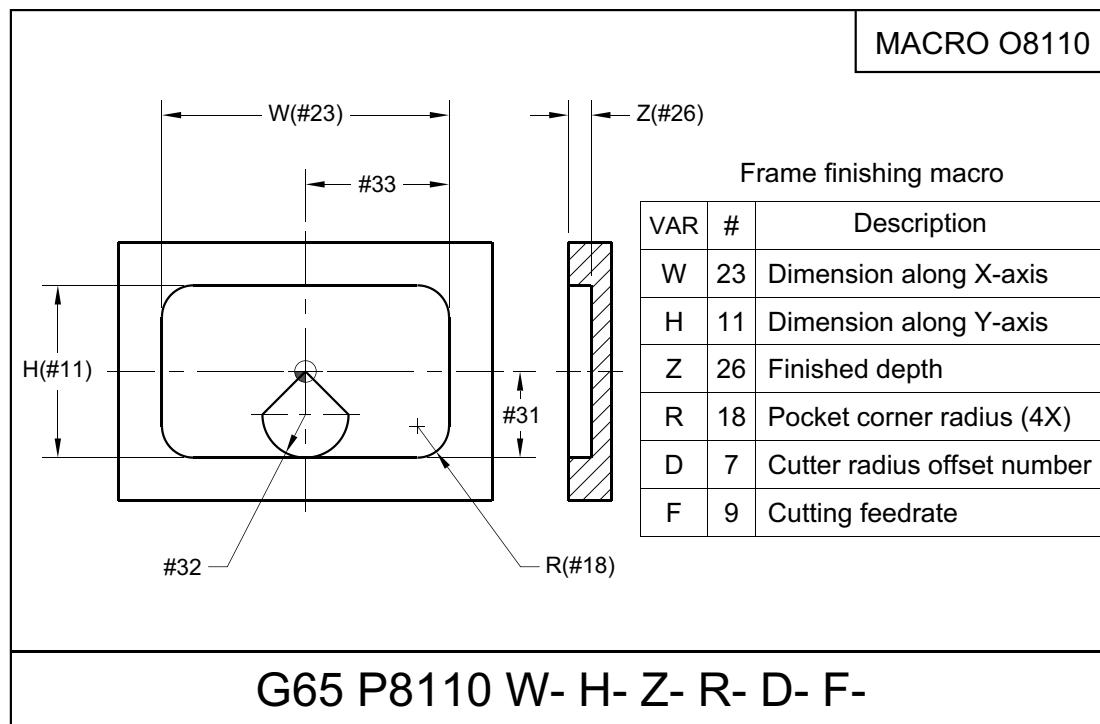

Figure 51
Items 1 and 8 will be included in the main program, items 2-7, as well as various checks and calculated values, will be part of the macro. *Figure 51* illustrates the assignment of variables.